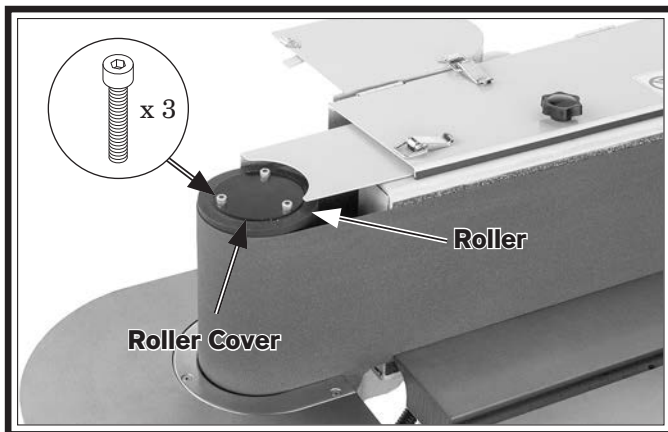

Figure 54. Location of roller cover and cap screws.
3. Remove (3) cap screws and roller cover from roller (see **Figure 54**).